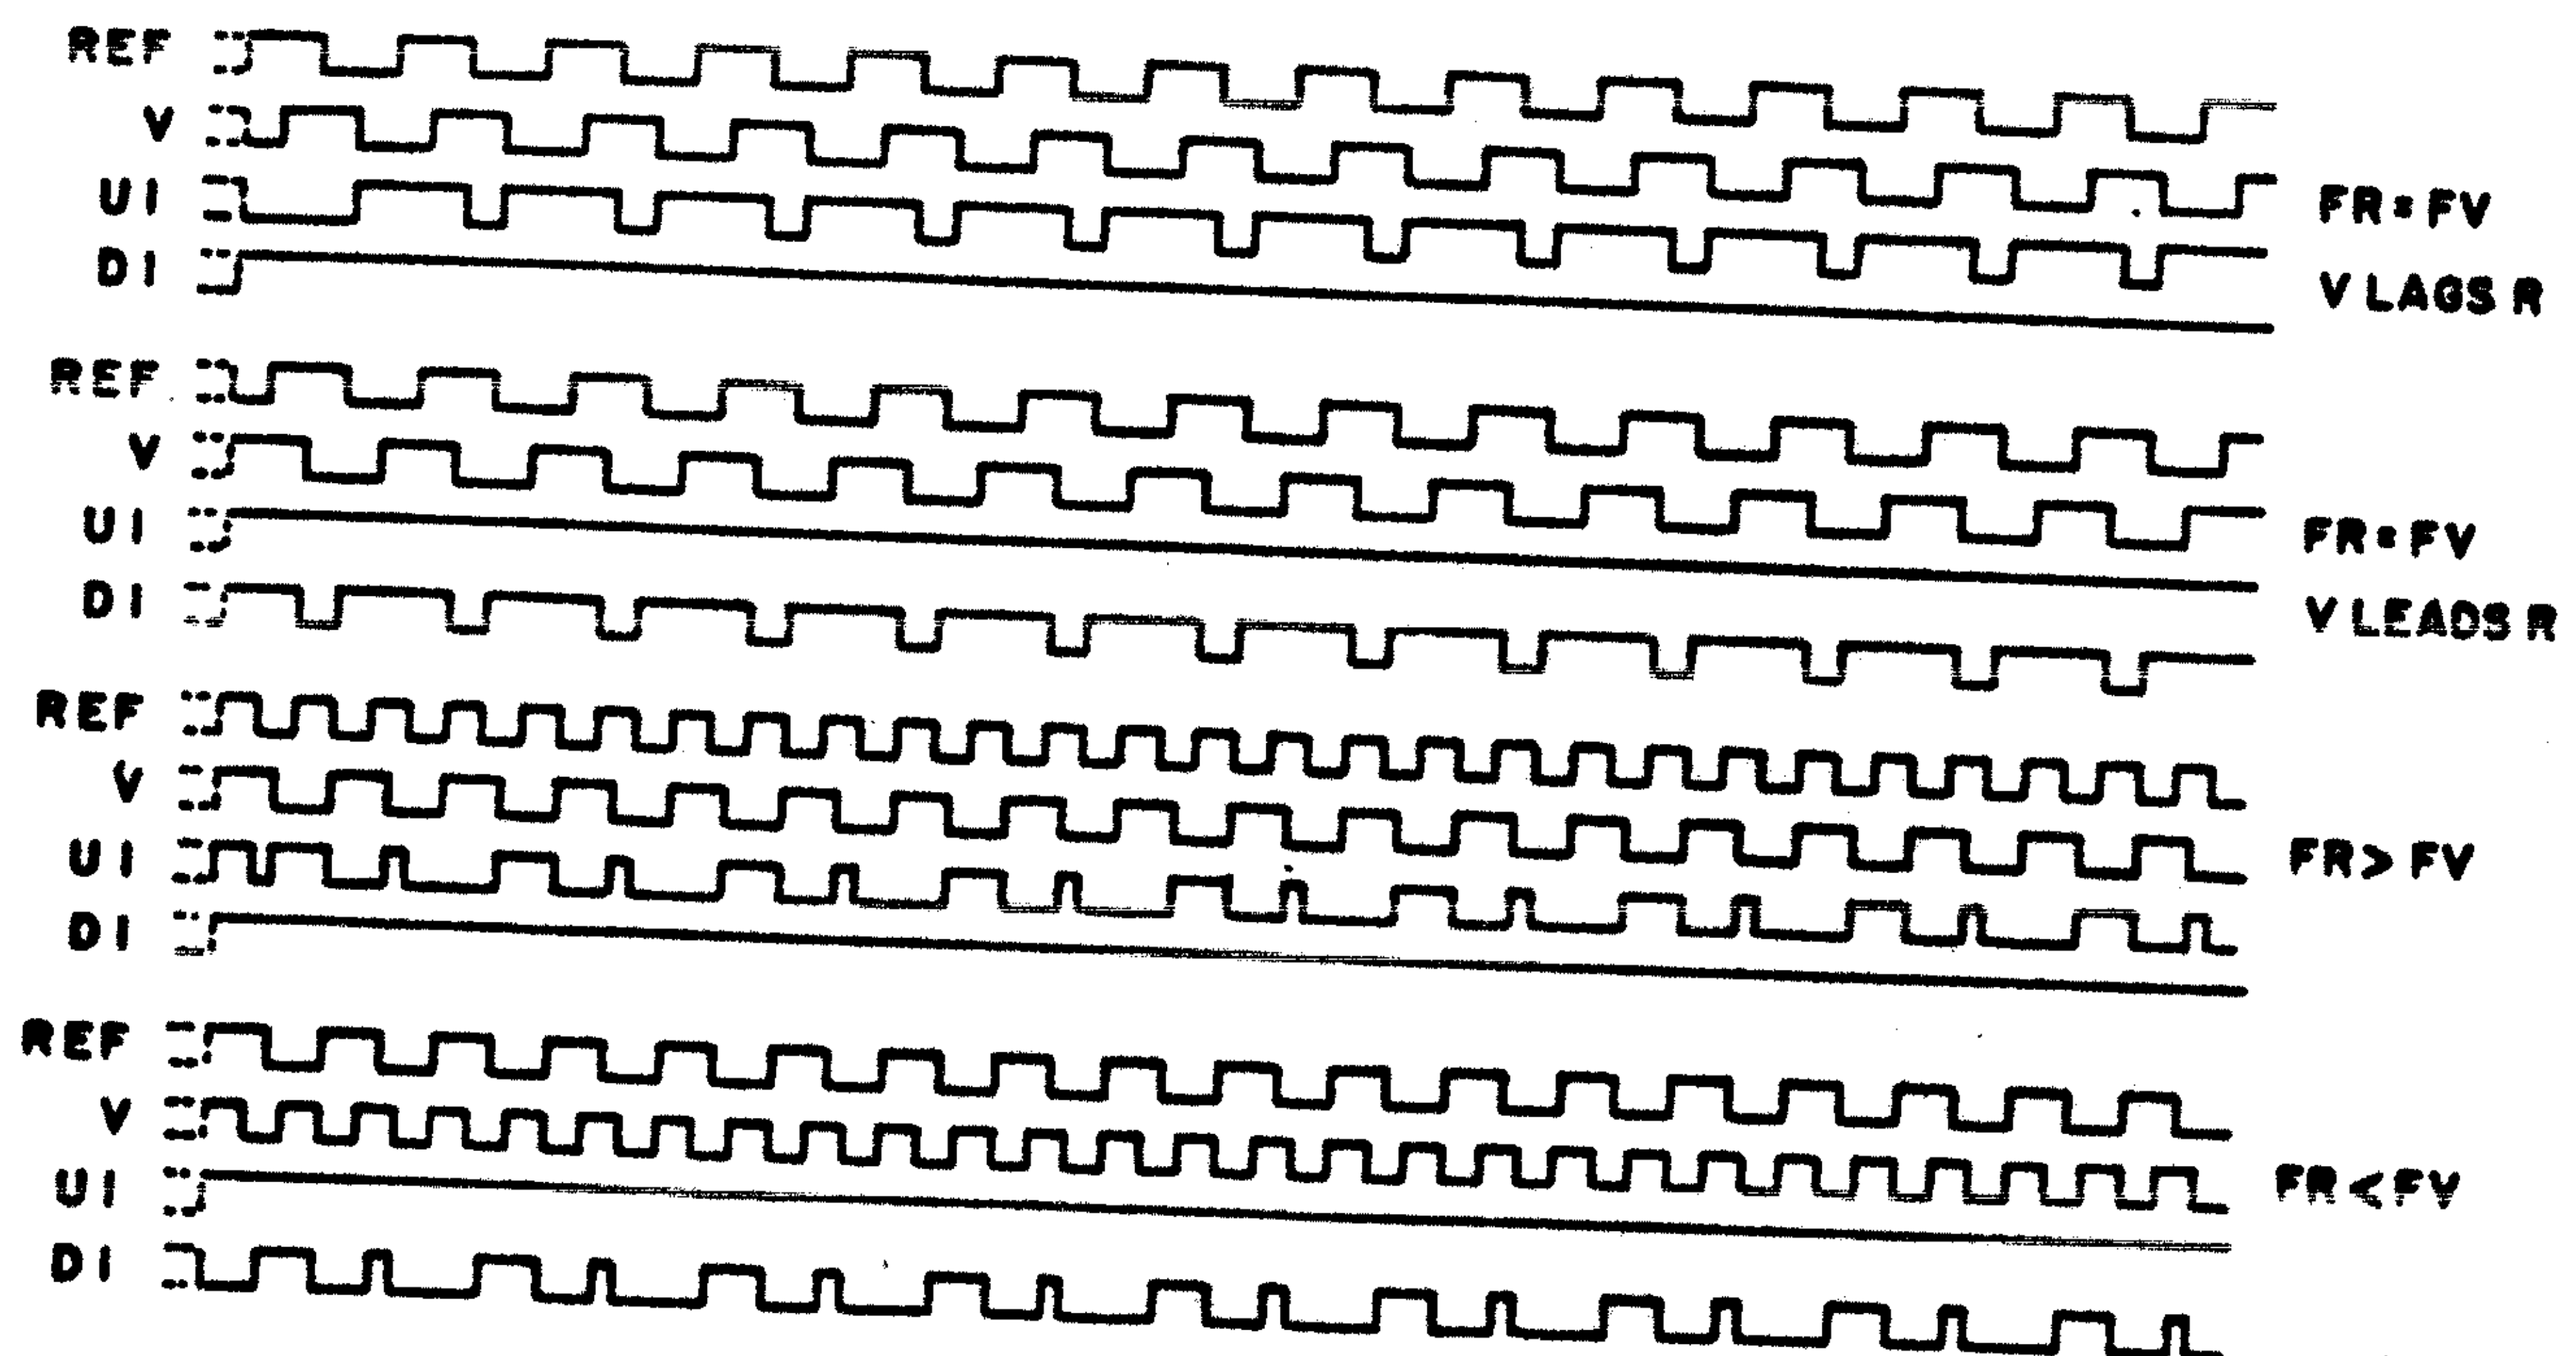

Figure 4-2. Phase Detector Timing Diagram
Check for 40 kHz signal at pin 1 of U5. If not present, troubleshoot 1st LO counter circuits. Refer to Figure 4-2 to understand the function of the phase detector.
- d. Phase Detector U12 - Check for 10 kHz signal at Pin 1 of U12. If incorrect or no signal, troubleshoot Time Base Circuits. Compare inputs (pins 1 and 3) and outputs 2 and 13 to **Figure 4-2** of the 1st LO Troubleshooting Test.
- e. If the signals at Pins 1 and 3 of U6 both appear correct, compare its outputs at Pins 2 and 13 with those of Figure 4-2. If these appear correct the problem must be in the amplifier section of U6 pins 8 and 9 and its connection to the VCO.